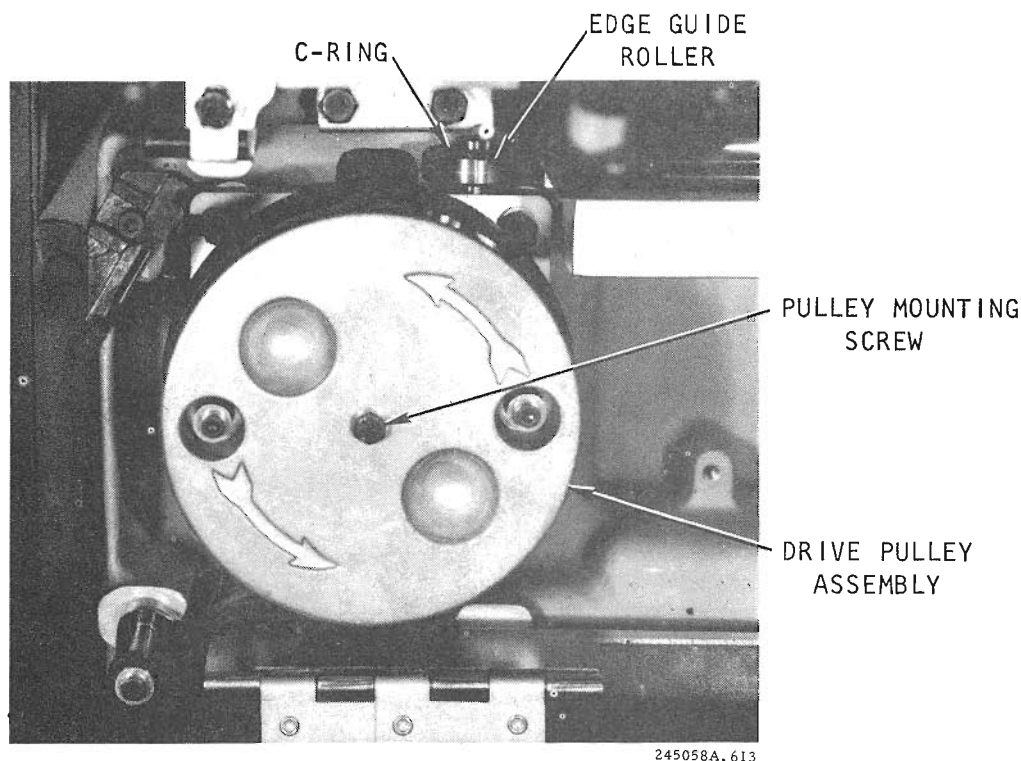

Figure 6-13. Pulley Assembly
Mount the bearing, install the C-ring, install (shaft end flush with casting) and secure the edge guide roller with the mounting screw (see figure 6-13). Perform steps e and g of this procedure.
- c. Remove the left drive pulley mounting screw and lift the drive pulley assembly out (see figure 6-13).